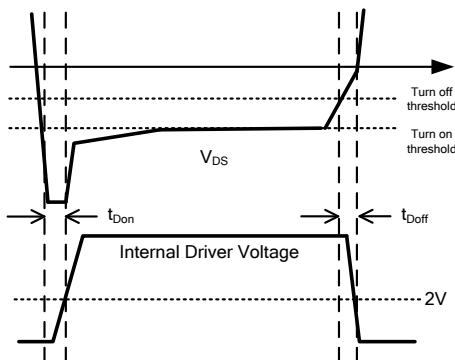

Figure 2: Turn-on and Turn-off Delay
1. Turn-on phase: The switch current first flows through the body diode of the integrate MOSFET, which generates a negative V_{DS} across it (less than -500mV). The voltage is much smaller than the turn-on threshold of the control circuitry (-65mV), which turns on the integrated MOSFET after a t_{Don} (100ns) turn-on delay (see Figure 2).
3. **Turn-off phase:** When V_{DS} rises to trigger the turn-off threshold (-30mV), the driver voltage of the switch is pulled low after t_{Doff} (30ns) of turn-off delay time by the control circuitry (see Figure 2). Similar with the turn-on phase, a 200ns blanking time is added after the switch turns off to avoid an erroneous trigger.